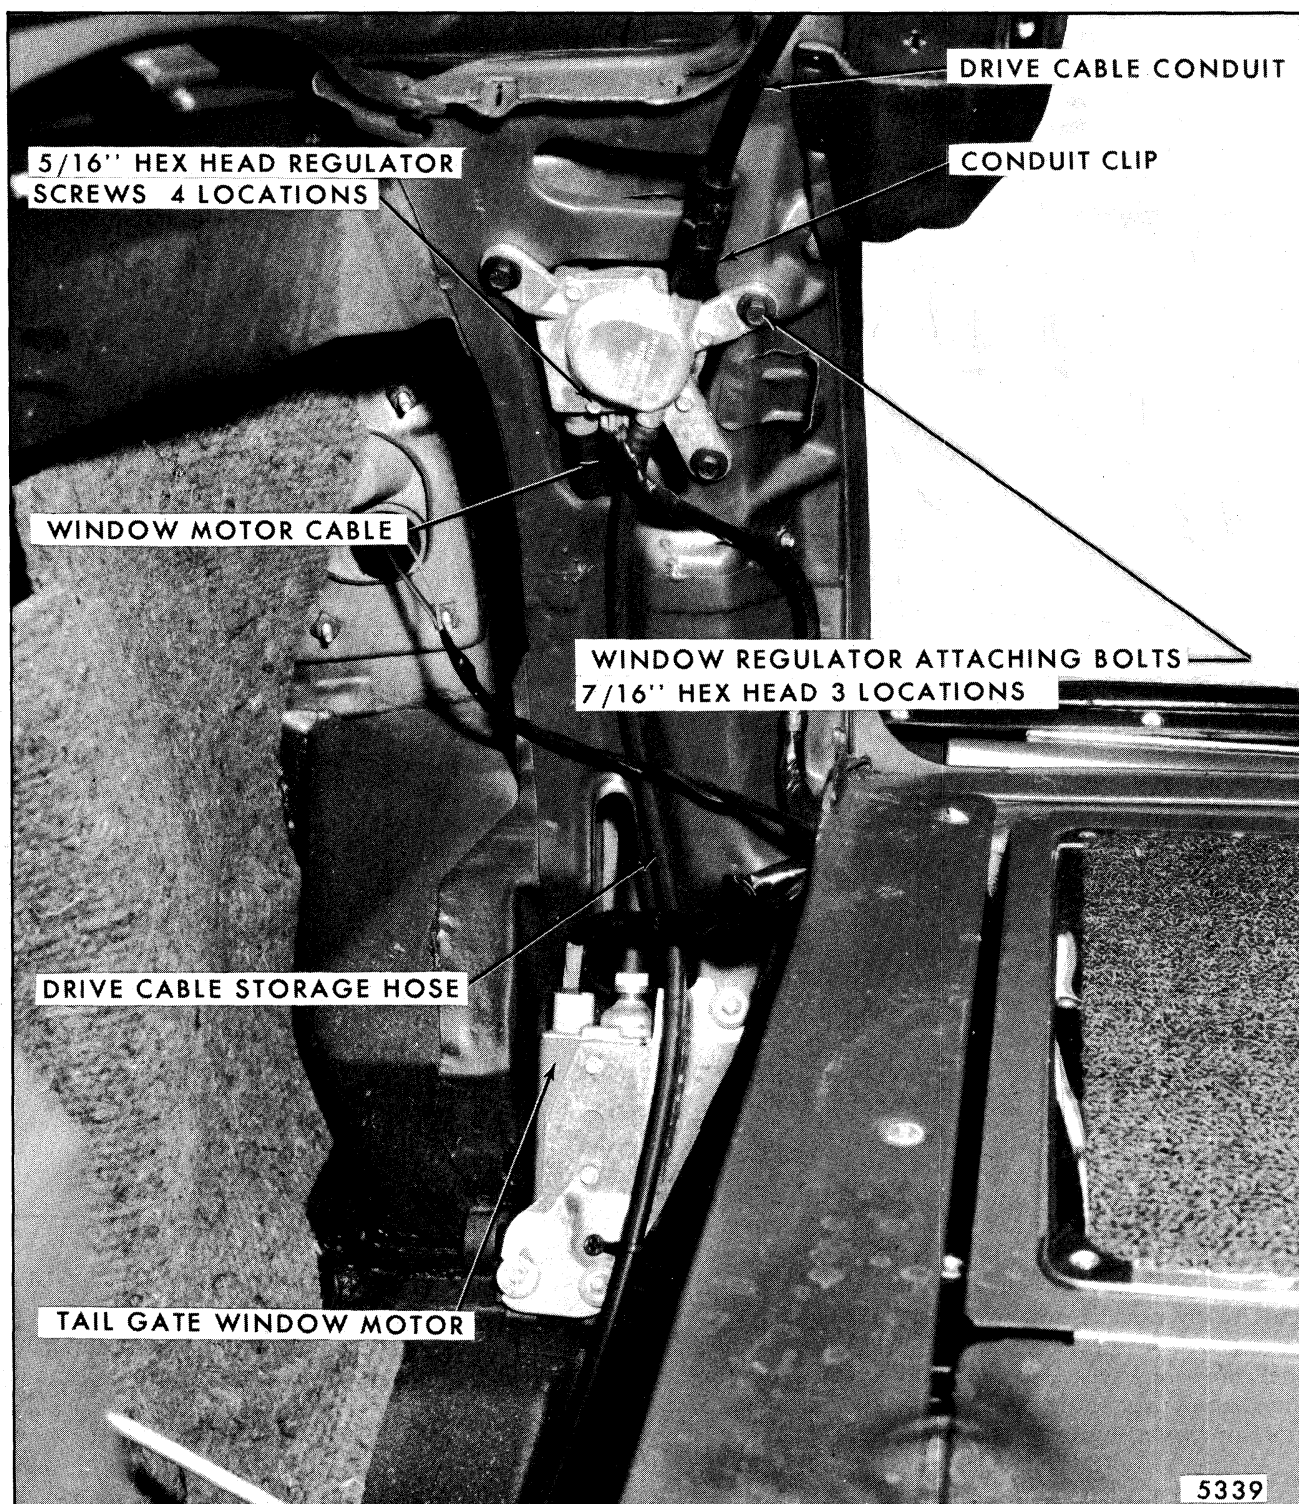

Fig. 7-124-Tailgate Window Motor and Regulator Installation
2. Disengage window motor cable at window regulator assembly (Fig. 7-124).
The tailgate window motor is secured to a mounting plate and in turn, the plate is bolted to the inner surface of the right hand back body pillar behind the spare tire cover (Fig. 7-124). Rubber cushions insulate the plate from body metal, thereby requiring a separate ground strap to complete the motor circuit. Refer to the Electrical Section of this manual for details concerning the window motor and circuit.
2. Disconnect motor electrical lead and disengage cable at upper end of motor (Fig. 7-124).
regulator by a cable approximately 13 inches long. The cable is routed behind the basic body inner panel; however, access to each end of the cable for disconnect purposes is provided at the motor and regulator mounting locations (Fig. 7-124).
2. Remove three regulator to pillar attaching bolts (Fig. 7-124).